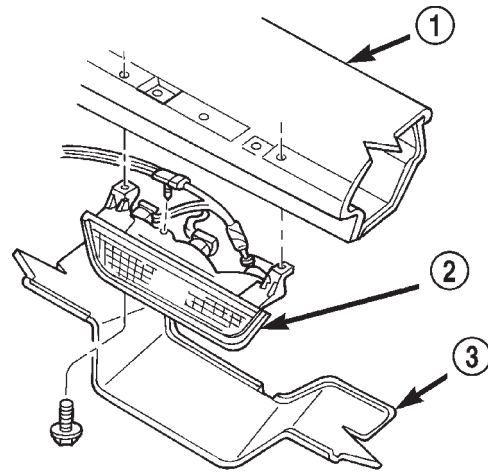

Fig. 5 Center High Mounted Stop Lamp
- (1) Remove liftgate trim panel.
- (2) Remove CHMSL lamp mounting screws (Fig. 5).
- (3) Remove CHMSL lamp.
- (4) Turn bulb sockets 1/4 turn counterclockwise.
- (5) Separate socket from lamp.